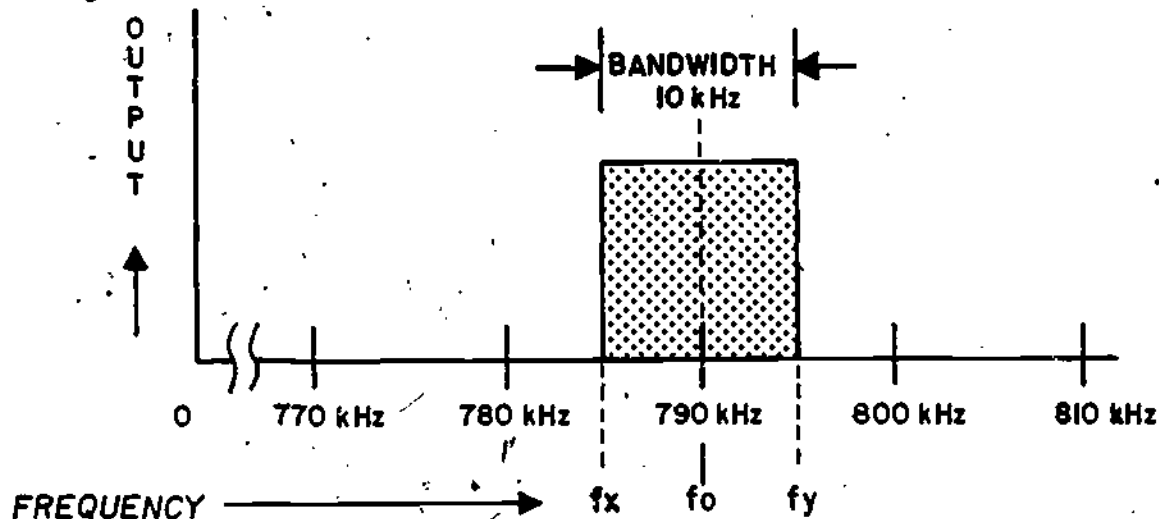
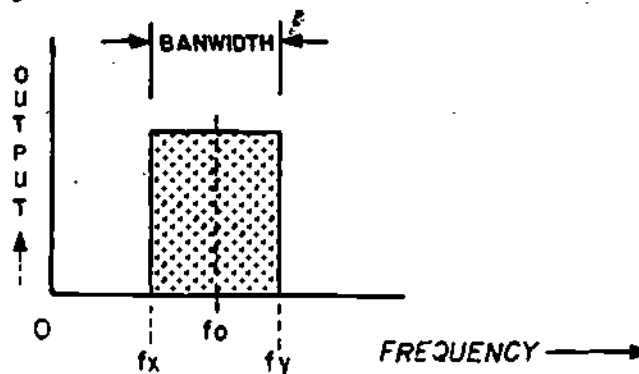

Figure 1: IDEAL RECEIVER FREQUENCY RESPONSE CURVE
Figure 2
Suppose you tune in your favorite rock station at 790 kHz on the AM radio dial. In order to get good sound reproduction, your radio receiver will be tuned to select a center frequency of 790 kHz with a 10 kHz bandwidth as shown in Figure 1.
Ideally, your radio receiver should select and amplify only the signal which contains the necessary information, and completely reject all other signals. To do this, an ideal receiver would need the rectangular frequency response curve shown in Figure 1. In the figure, the flat top indicates that the receiver should have constant gain within the 10 kHz bandwidth. The vertical sides at F_x and F_y indicate that frequencies on either side of these points would not be amplified.
In Figure 1, the flat top shows that the ideal receiver has constant _____ within the bandwidth around a selected F_o .
- ④ The converted input signal into an IF amplifier in your radio receiver contains all the original information needed for good sound reproduction. Therefore, the ideal IF amplifier should have the rectangular frequency response curve shown in Figure 2.
Notice that the shape of the response curve in Figure 2 is the same as for the ideal receiver response curve in Figure 1. Therefore, the ideal IF amplifier should have constant gain within its bandwidth, and no gain beyond the bandwidth limits as f_x and f_y as shown in Figure 2.